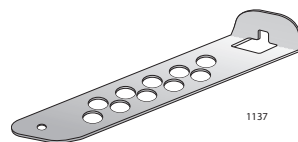

Figure 48. Line Card Removal Tool
3. Locate the line card removal tool, as shown in Figure 48.